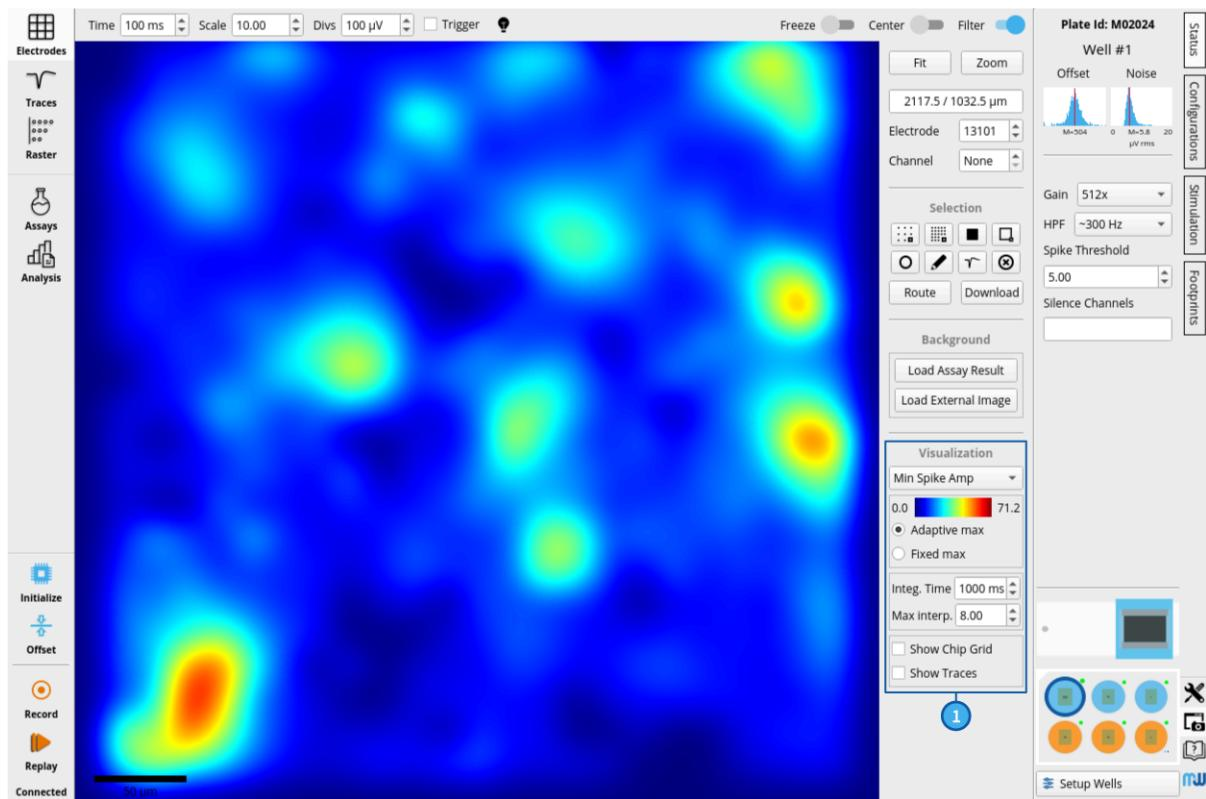

Figure 3.5. Parameters for the Visualization Module
After selecting one of the feature visualization modes, the parameters for the Visualization module appear, as shown in Figure 3.5 (1):